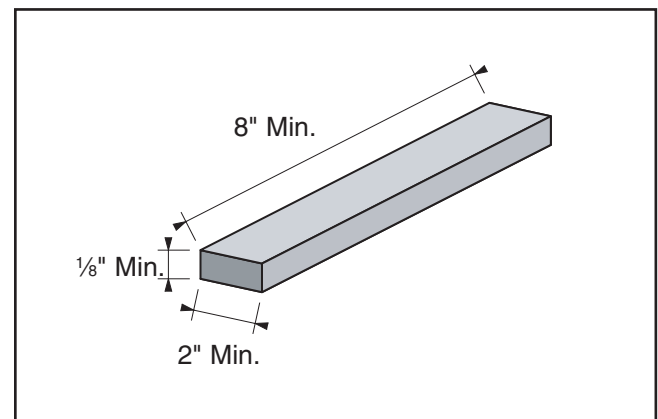

Figure 14. Minimum dimensions for sanding.
- **Workpiece Dimensions:** DO NOT sand boards less than 8" long, 2" wide and $\frac{1}{8}$ " thick to prevent damage to the workpiece to reduce the risk of your hands contacting the sandpaper (see Figure 14).